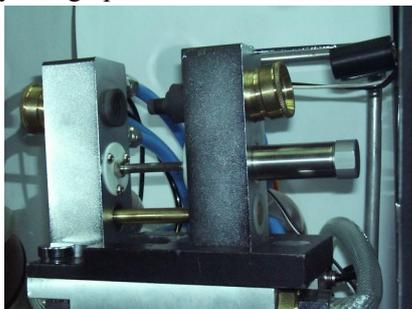

Figure 2-20
3. Pull open the left furnace body left toward (Figure 2-20), take out the graphite tube (Notice: the furnace body and graphite tube must have been cooled)